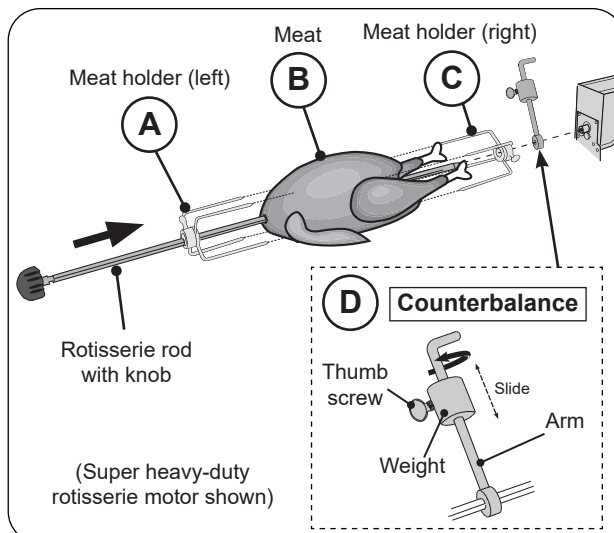

Fig. 35-3 Assemble rotisserie rod for cooking
4. Slide the left meat holder onto the rod and tighten (see Fig. 35-3, A).
5. Then slide meat onto the rod, followed by the right meat holder (see Fig. 35-3, B and C).
8. The counterbalance may then be attached to even weight distribution. Slide the counterbalance onto the rod next to the right meat holder (see Fig. 35-3, D). Loosen the arm and point it upward opposite the heavy side of the meat. Tighten the arm.
9. Slide the counterbalance weight up or down the arm until the rod rotates most evenly then tighten thumb screw (see Fig. 35-3, D).